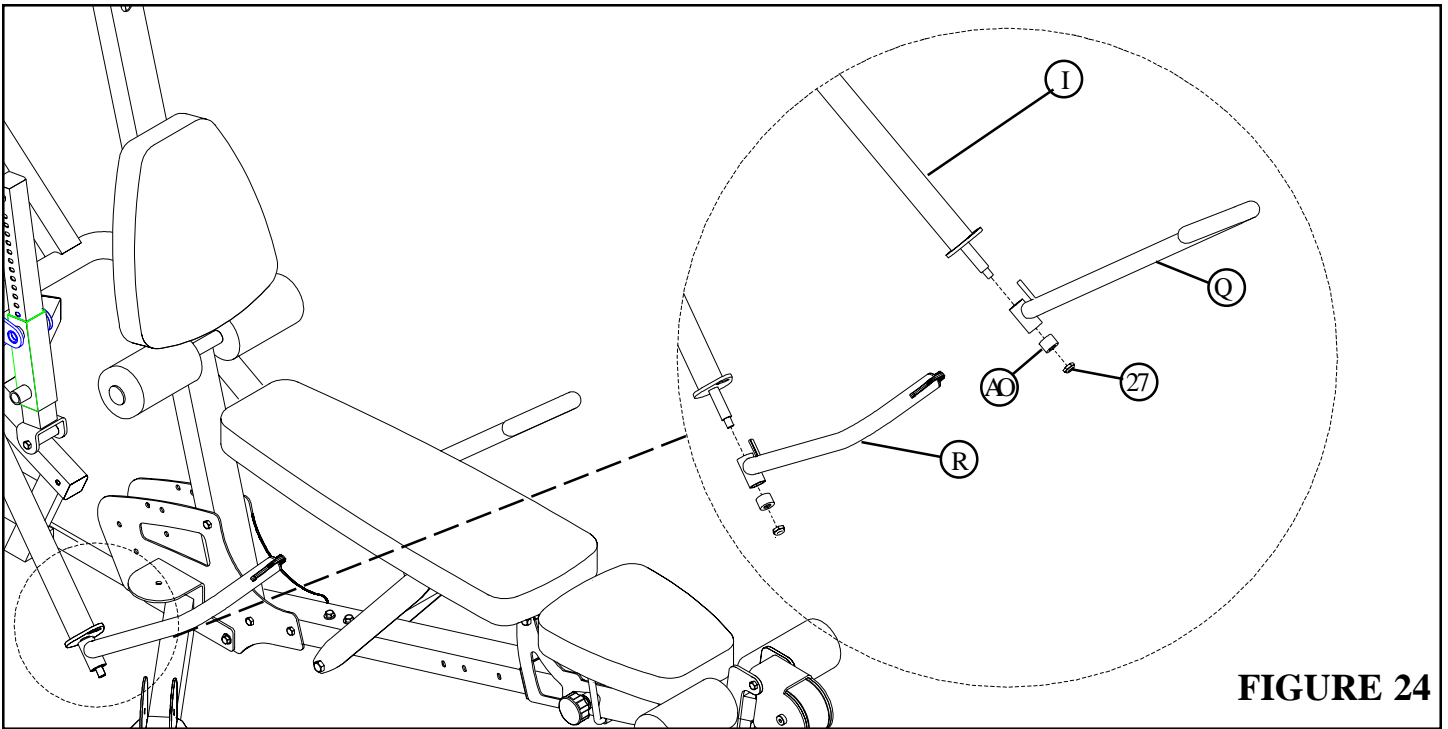

FIGURE 24
- Assemble the RIGHT PRESS ARM HANDLE (R) to the PRESS ARM (I) using one 25/32" BUMPER (AO) and one 1/2" LOW HEIGHT LOCK NUT (27) as shown in FIGURE 24. (NOTE: Tighten 1/2" LOW HEIGHT LOCK NUT (27) to remove excess play yet allow the RIGHT PRESS ARM HANDLE (R) to rotate freely.)
- Assemble the LEFT PRESS ARM HANDLE (Q) to the PRESS ARM (I) using one 25/32" BUMPER (AO) and one 1/2" LOW HEIGHT LOCK NUT (27) as shown in FIGURE 24. (NOTE: Tighten 1/2" LOW HEIGHT LOCK NUT (27) to remove excess play yet allow the LEFT PRESS ARM HANDLE (Q) to rotate freely.)